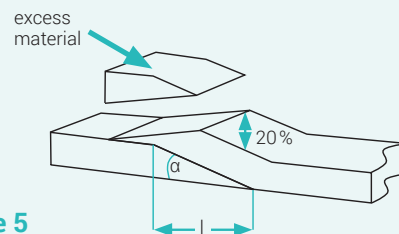

Figure 5
- Cut away excess material with an angle of 15 degrees. The interface should be 20 % thicker than the original sealing tape (figure 5).
- To close the gasket remove the masking tape and lay the gasket tape in the groove in a way that the skived cuts overlap according to figure 5.